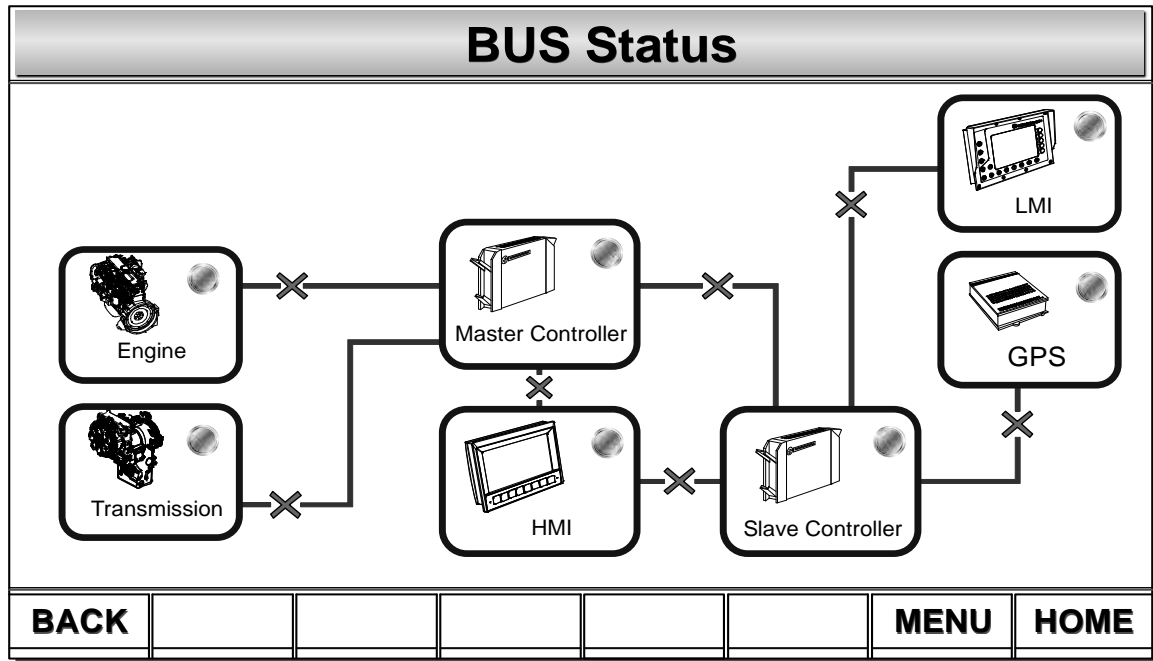

Figure 6-24 Bus Status
- D. Bus Status: move the cursor to select the icon "Bus Status" and press the key "ENTER" to enter the Bus Status Screen. Refer to Figure 6-24. If the communication between the controllers is unsuccessful, it means that the network signal between the controllers is disconnected.